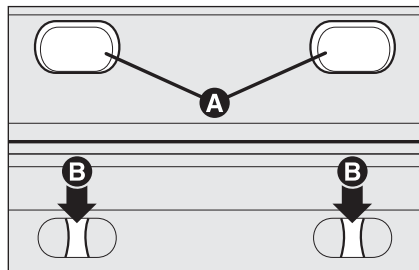
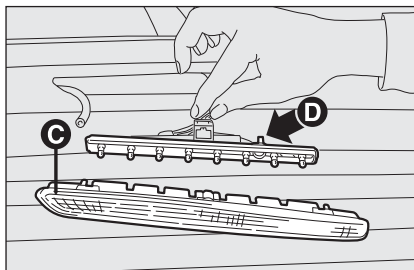

fig. 26
fig. 27
- ☐ remove the rubber caps **A-fig. 26**;
- ☐ press the catches **B-fig. 26** and remove the lens unit **C-fig. 27**;
- ☐ press in the tabs **D-fig. 27** and remove the bulb holder;